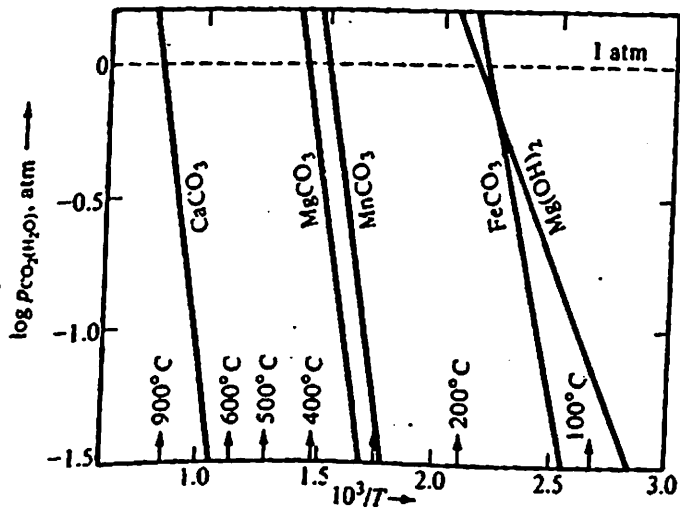

Figure 3.0 Decomposition pressure (logarithmic) of various carbonates and hydrates as function of temperature.
- (c) Discuss the decomposition of Mg (OH)₂ and MgCO₃ with respect to their decomposition pressure and temperature in Figure 3.0.